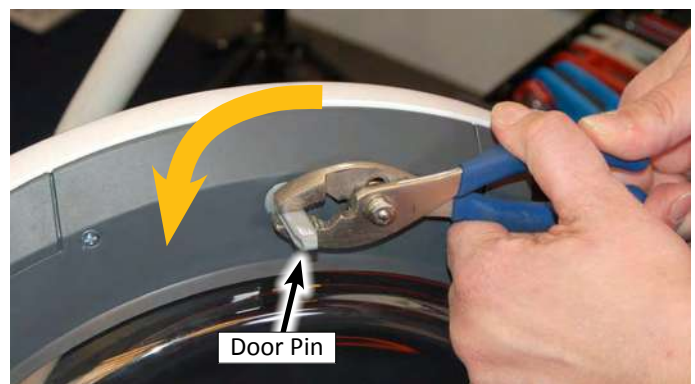

Figure 4
2. Using a pair of pliers, grasp the "run/stop" pin (used to depress the door switch paddle) and rotate the pin counter-clockwise 1/4 turn. See Figure 4.